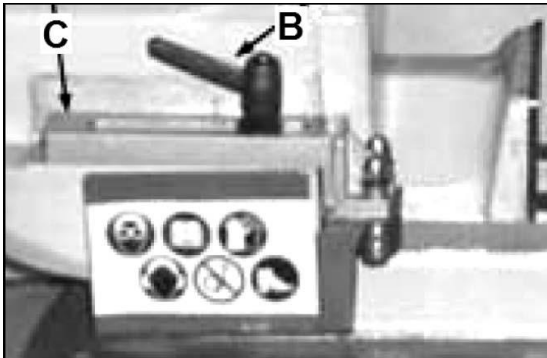

Fig 5
Loosen the indexable knob (B, Fig 5) and slide blade guide assembly (C) as close as possible without interfering the material being cut. Tighten knob.